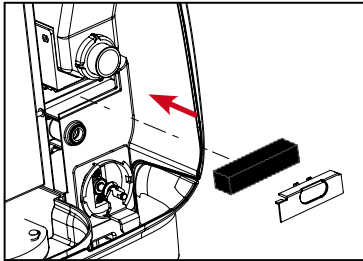

Fig.14
1. Replace the filter and its cover. (See Fig.14)